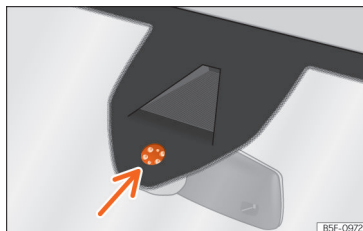

Fig. 78 Sensitive surface of the rain sensor.
The possible causes of anomalies and erroneous interpretations *in the sensitive surface area* »» Fig. 78 of the rain sensor are, among others:
- **Dirt:** dry dust, wax, coating on glass (Lotus effect) or traces of detergent (car wash) may reduce the effectiveness of the rain sensor or make it react more slowly, later or not at all. Regularly clean the sensitive surface of the rain sensor »» Fig. 78 (arrow) and check for possible damage to the wiper blades.